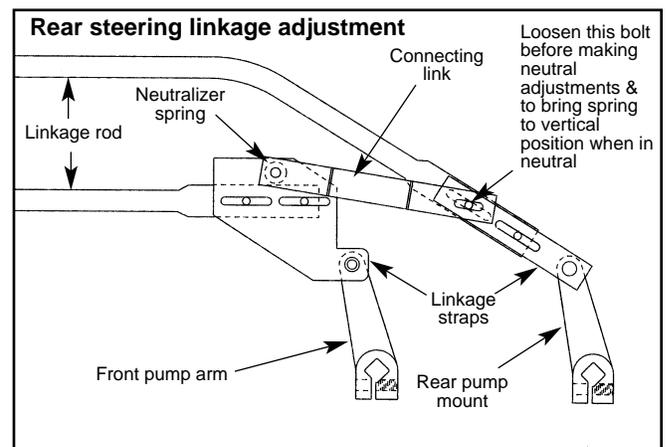

Figure 5-2
**NOTE:** On units with serial numbers prior to and including 11374 (last five digits) before making the neutral adjustment, loosen the nut securing the connecting link to the rear pump steering linkage. Fig. 5-2. This will be tightened again **after** neutral is adjusted.